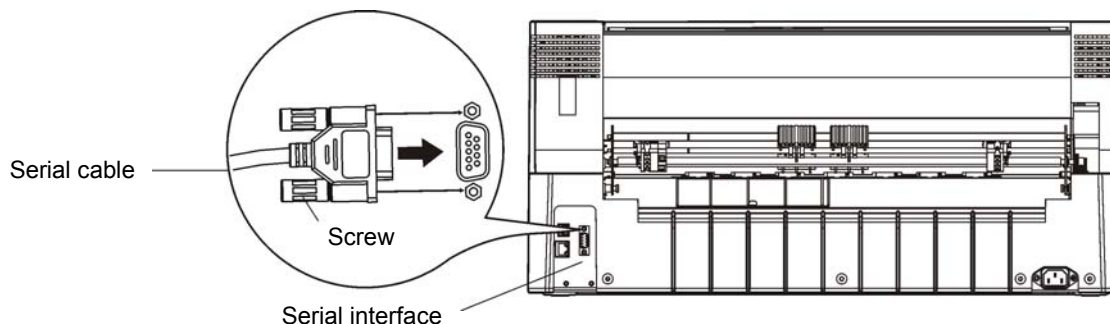
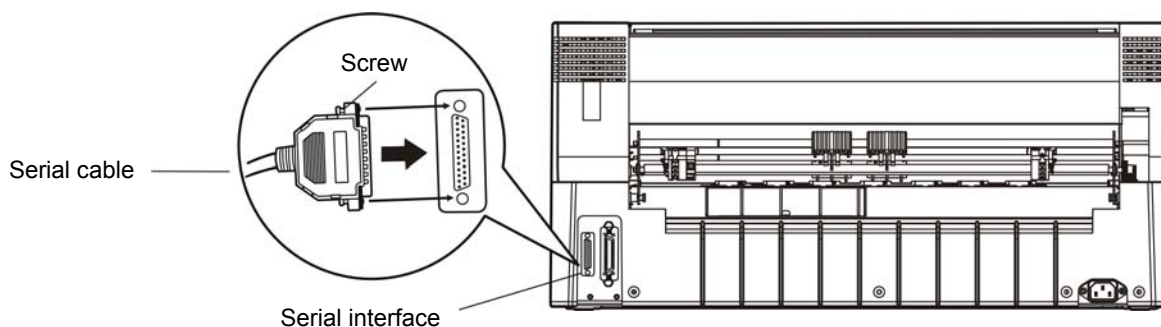

Figure 2-18 Connect to the serial interface (9-pin)
Figure 2-19 Connect to the serial interface (25 -pin)
1. Turn off both the computer and the printer. Plug the serial cable connector securely into the printer's serial interface. Then tighten the screws on both sides of the connector. As shown in Figure 2-18 or Figure 2-19.